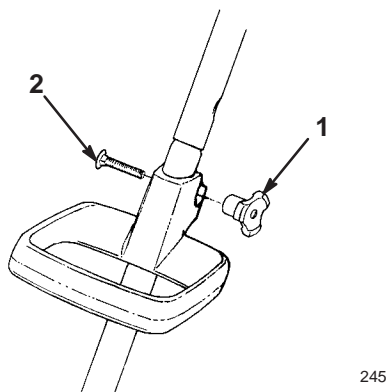

Figure 4
5. Loosely install the adjustable handle to the tube with a carriage bolt and a knob (supplied in the loose parts bag) as shown in Figure 4.